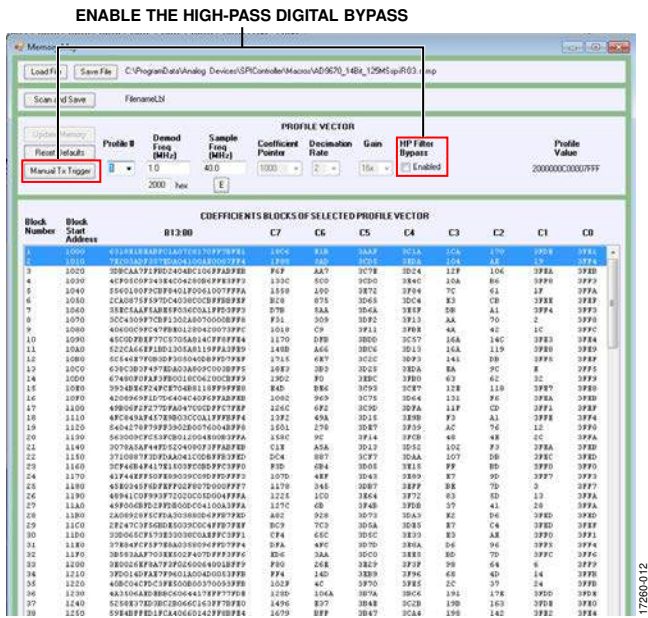

Figure 12. Disabling the Digital High-Pass Filter Bypass in the **Memory Map** Window
- To disable the digital high-pass filter, select the **HP Filter Bypass** checkbox in the **Memory Map** window (see Figure 12) and then click the **Manual Tx Trigger** button (see Figure 12).